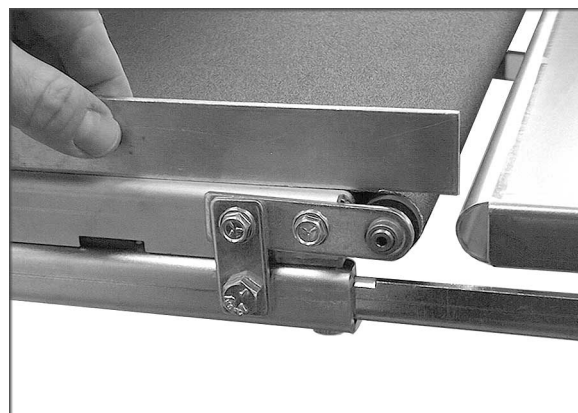

Figure 33
Step 1: Check the conveyor drive roller and the driven roller to make sure they are parallel to the surface of the conveyor bed. To do this, first center the conveyor belt on the bed. Then lay a straight-edge on the exposed edge of the conveyor bed on the left (outboard) side, extending it over the roller. See Figure 33. Note the distance between the roller and the straightedge.